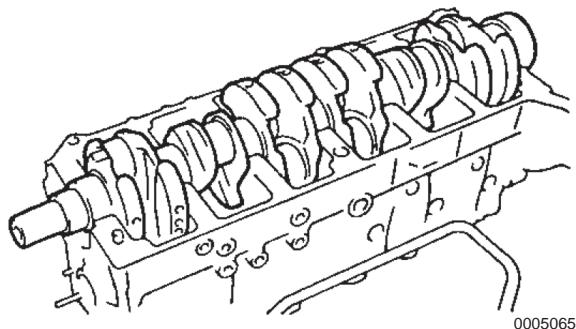

Figure 5-142
4. Place the crankshaft on the cylinder block (Figure 5-142).